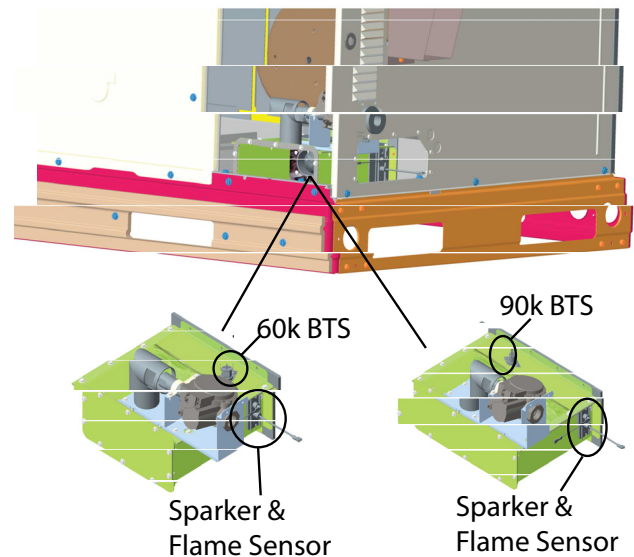

Fig. 20 – Burner Thermal Switch (BTS) (Ultra Low NOx)
2. Remove 2 screws holding the flue hood (Fig. 20) and remove the flue hood.
6. Re-connect flue hood (Fig. 20) using the 2 screws removed.
NOTE: For Ultra Low NOx The combined flame sensor/sparker is located on the right side of the burner box (See Fig. 20). The flame sensor/sparker is accessible for service by removing the cover in the right side panel. The burner thermal switch (BTS) is located on the top of the burner box. For 60k heat sizes, the BTS switch is accessible through the cover in the right side panel. For 90k heat sizes, the BTS switch is accessible by removing the control access panel.